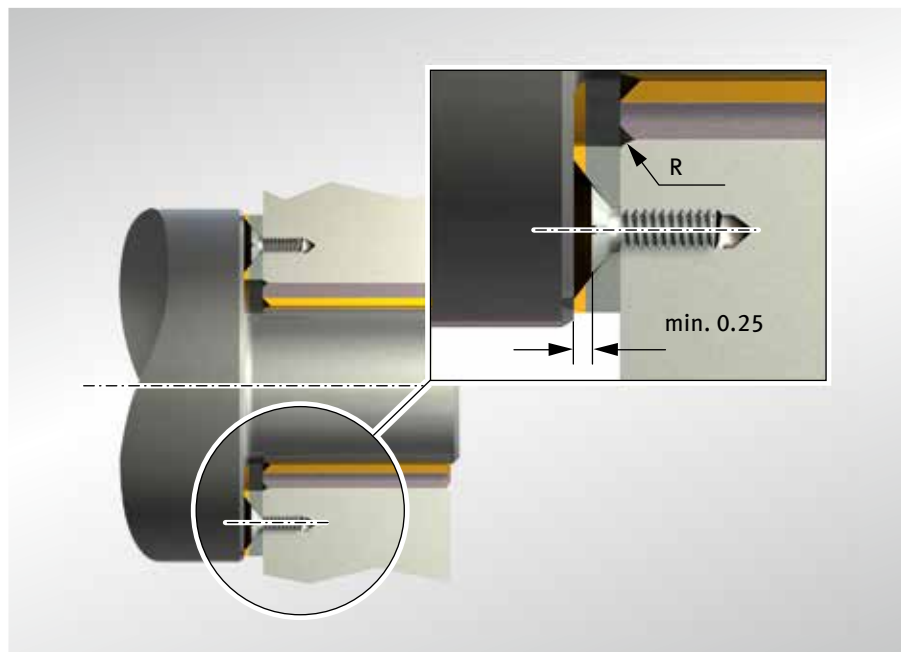

Fig. 41: Securing a PAW thrust washer without a recess in the housing
- Secure with several dowel pins or screws (Fig. 41)